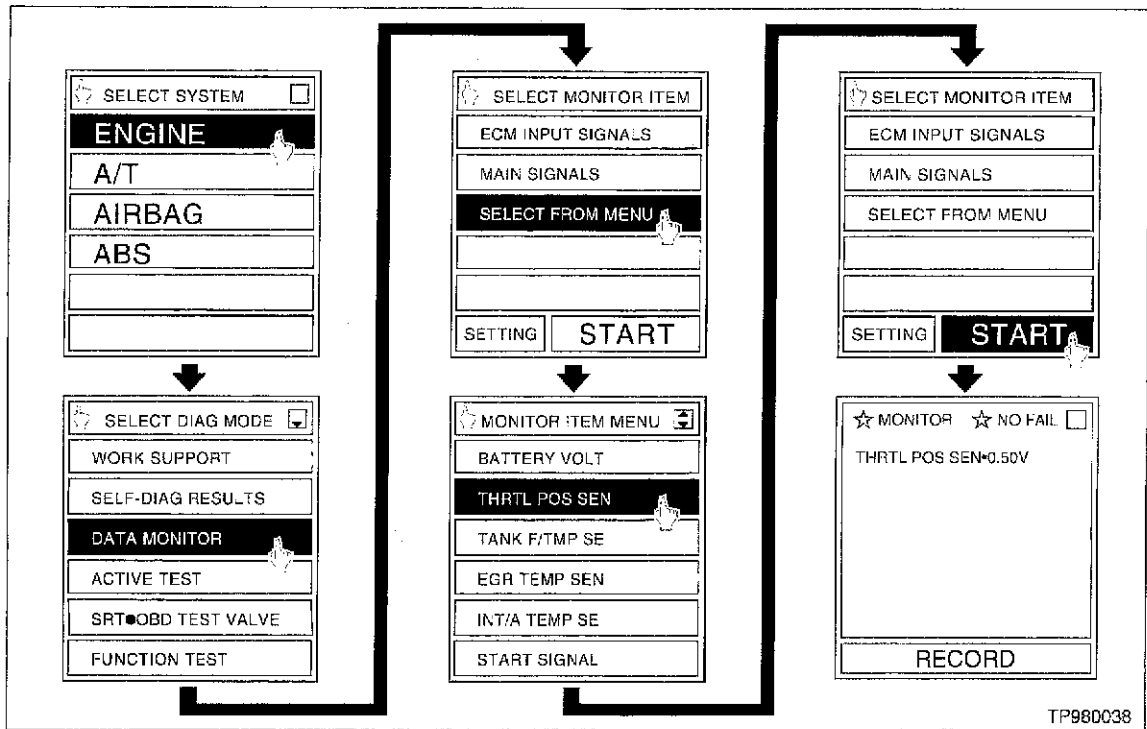
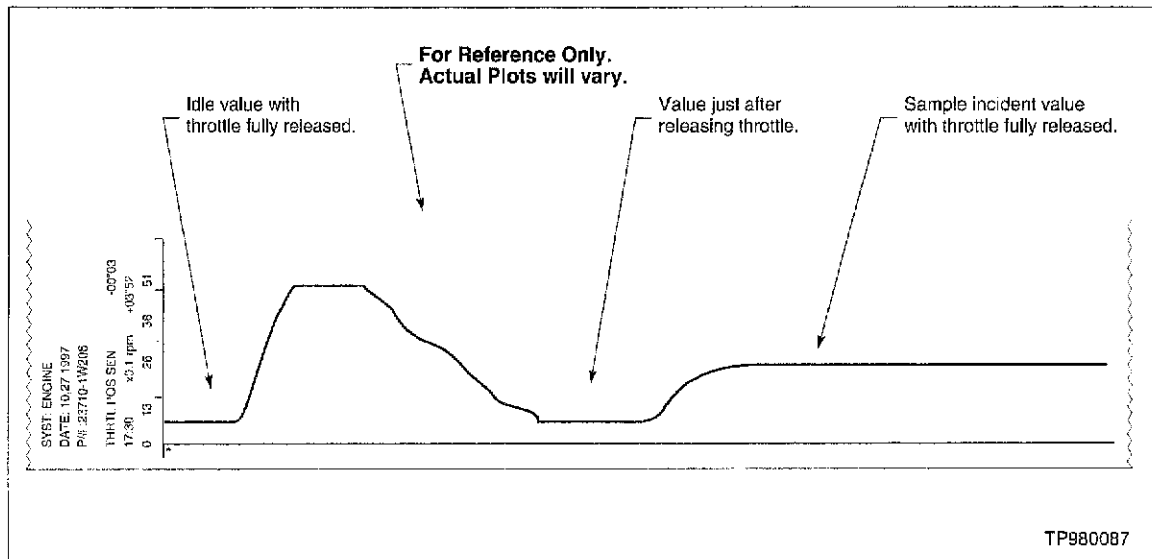

Figure 1
Figure 2
3. Using CONSULT, select THRTL POS SEN in the Data Monitor mode (see Figure 1, page 2).
NOTE: Figure 2 is a visual representation of the incident and is **for reference only**. It will be easier to perform this test based on the actual voltage values displayed (as in Figure 1) rather than to graph the voltage output. *Use the actual voltage values to calculate the change.*